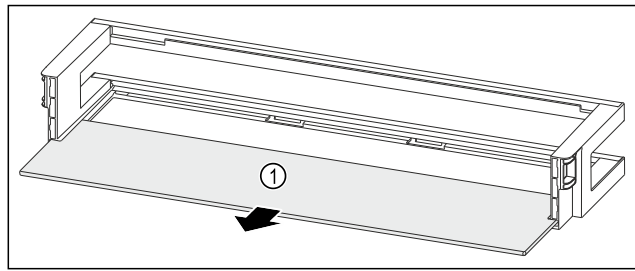

Fig. 238 Door rack with shelf
- ▶ Remove the shelf Fig. 238 (1).